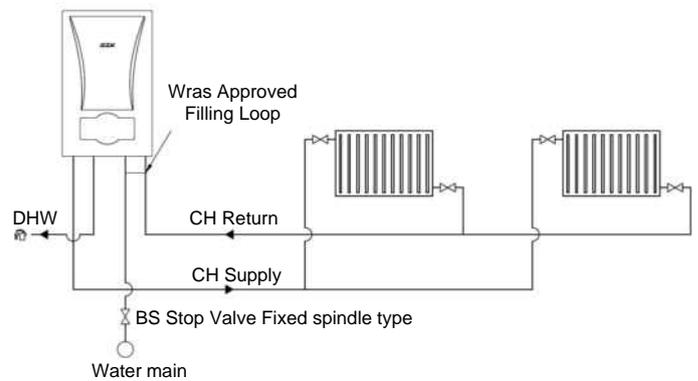

Figure 13. Installation for HM Boiler
- ✓ It is not recommended to install "Isolating Valve Cover" (figure 13-No 1) to the boiler if kitchen cupboard is used for installation place. It can be used at open space areas to hide valve set and filling loop.